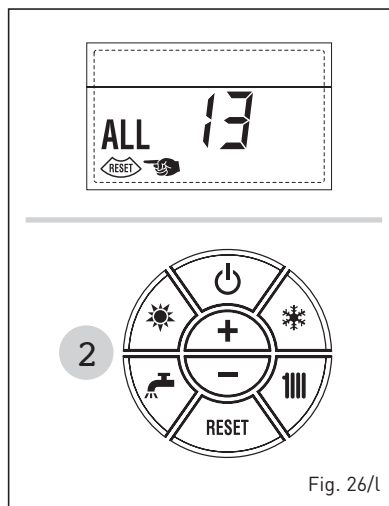

Fig. 26/l
– **ANOMALIA GUASTO Sonda FUMI “ALL 14” (fig. 26/m)**